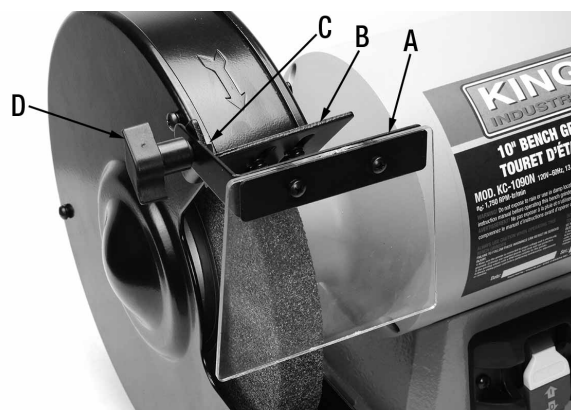

FIGURE 5
1. Attach the left side eye shield (A) Fig.5 to the left side spark deflector (B) using a hex. bolt (C), spring washer, washer and lock knob (D). Repeat for the other side.